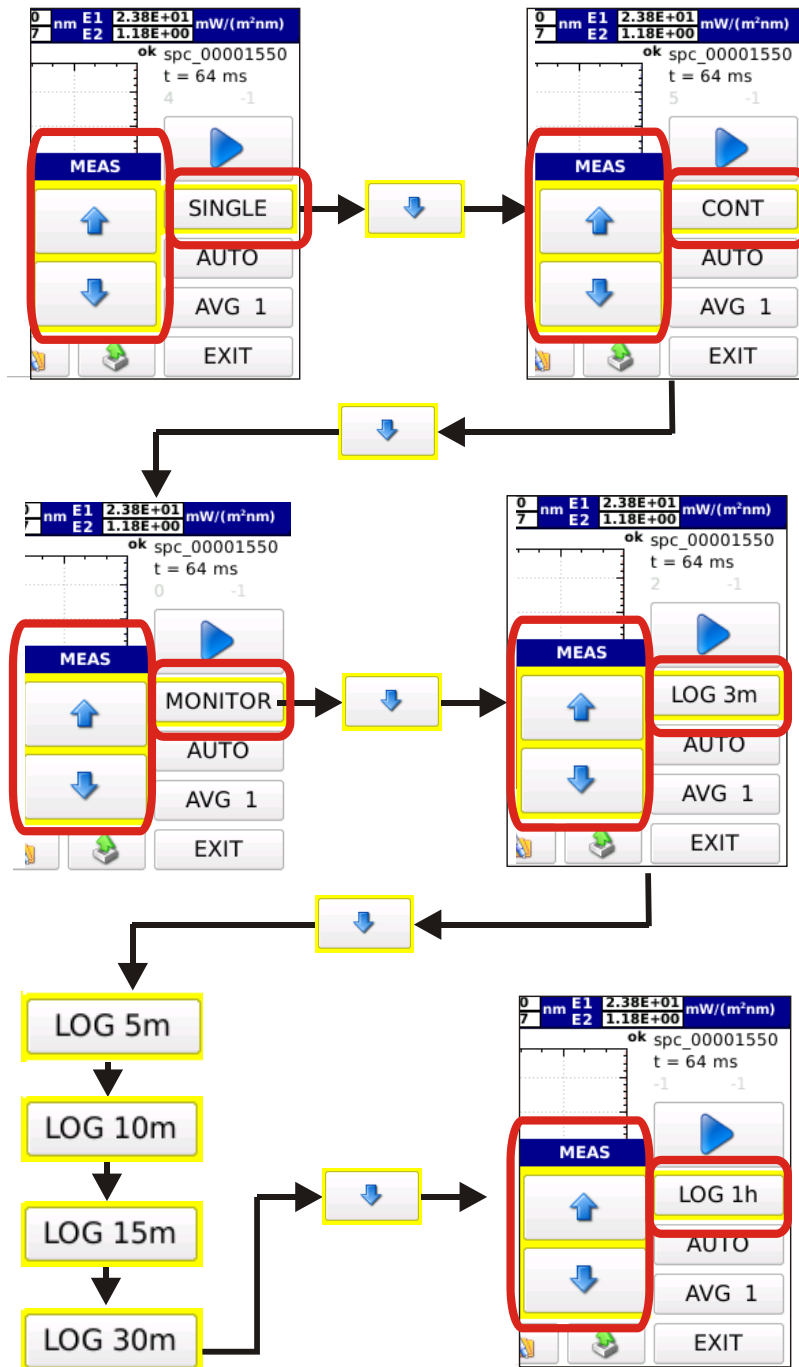

Fig 3.18: Select the operating mode using the arrow keys.
3.3.1 Select the operating mode of the instrument among the four available modes (SINGLE, CONTINUE, MONITOR, LOGGING). Press **SINGLE** to display two scroll cursors, press **↓** to change the operating mode as shown on figure 3.18.